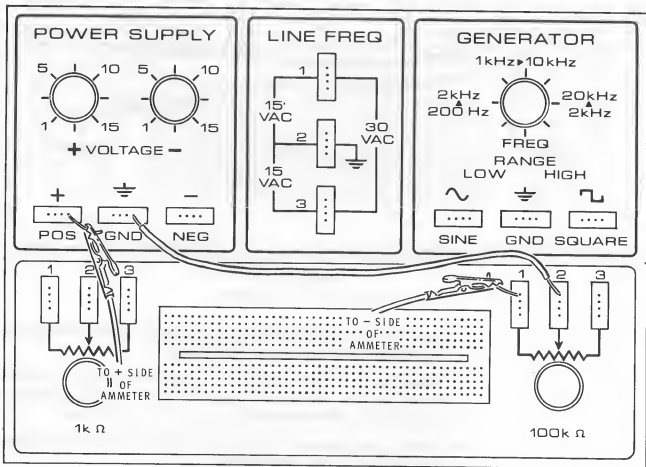

Figure 1-88
- If your meter has current scales, connect the circuit shown in Figure 1-88.